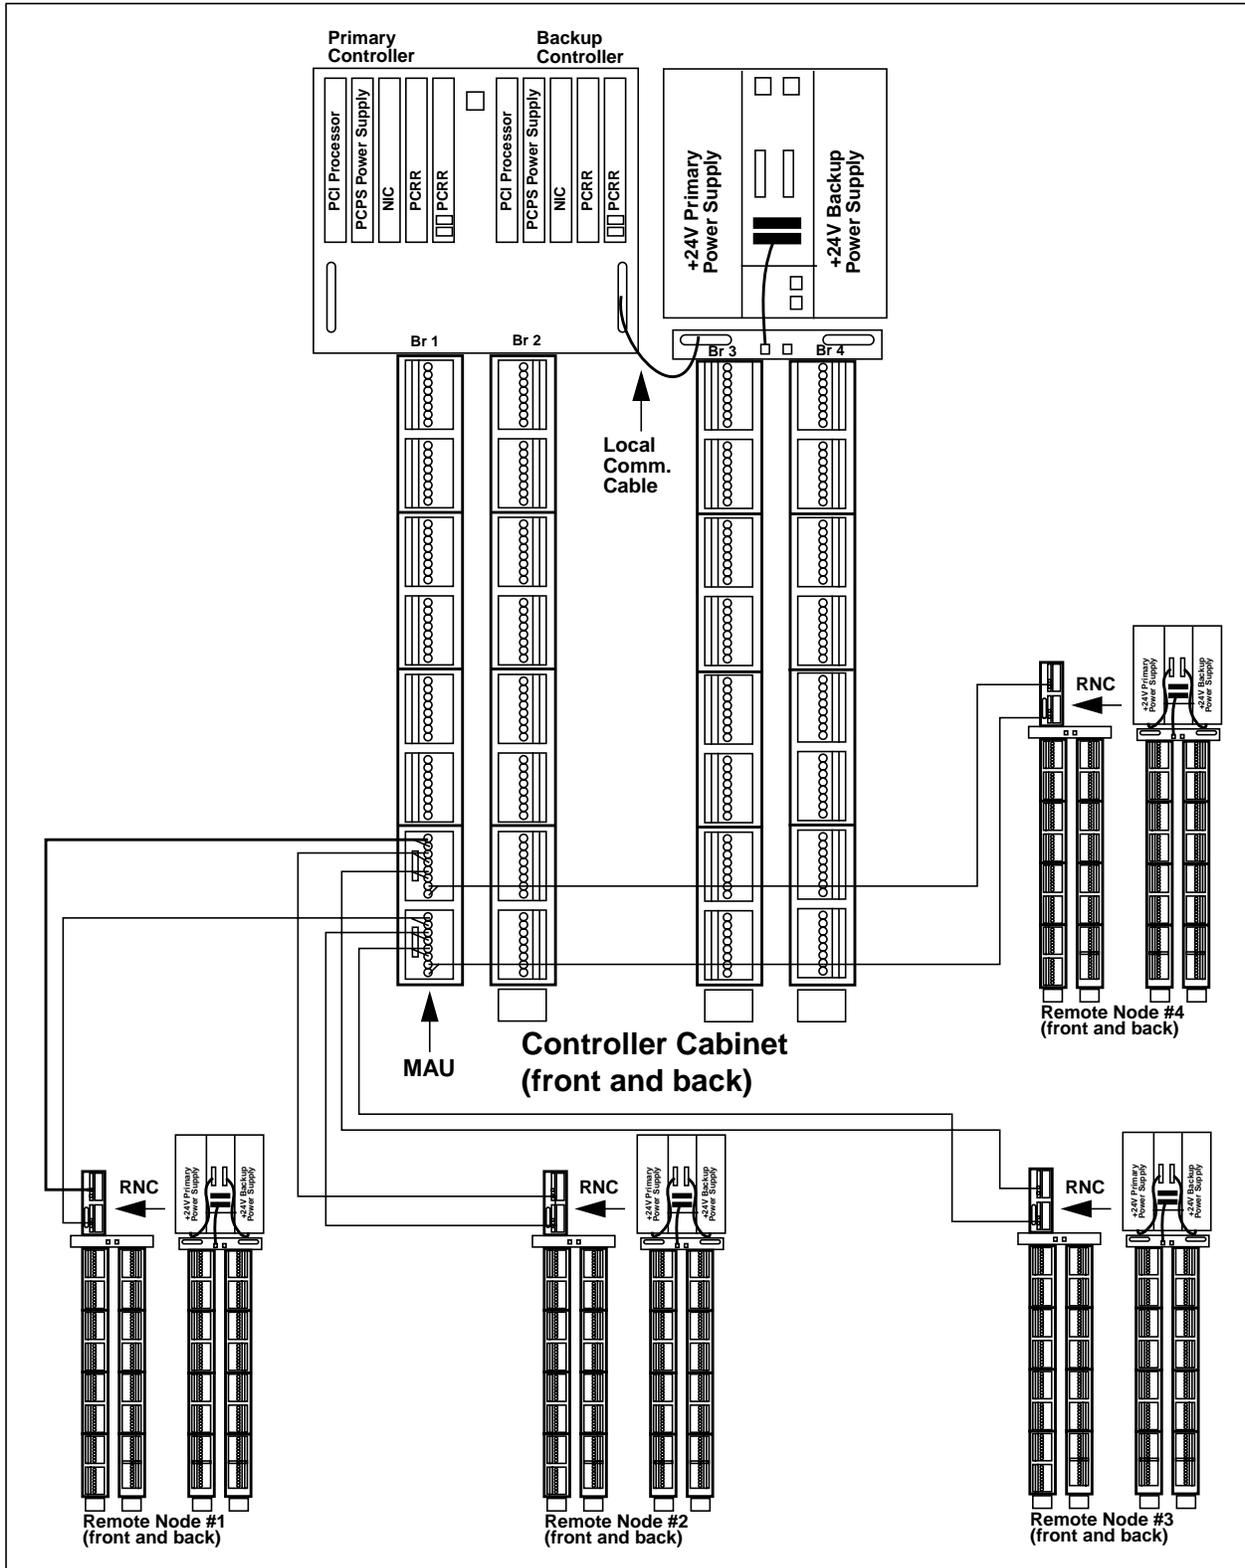

Figure 27-4. Example of Typical MAU Cable Connections to Remote Nodes
- **Media Attachment Unit (MAU)** - This module (see Figure 27-3) provides a point of attachment for fiber optic cables used to transfer messages over long distances between the PCRR and up to four remote nodes (see Figure 27-4). The module directs messages between the PCRR and one of the four remote nodes at a time as selected, converting signals readable by the PCRR to signals compatible with the fiber optic media and vice versa. The following components comprise the MAU: